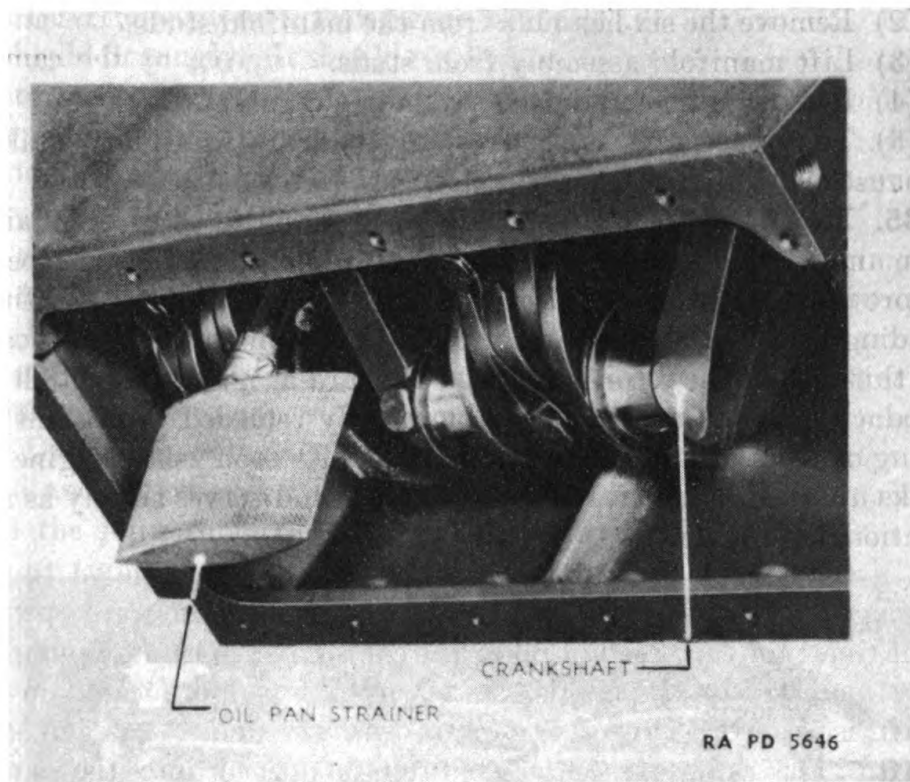

FIGURE 8.—Crankcase oil strainer.
(1) Through a pipe connection to the oil filter and rocker arm assemblies, half going to each point. The oil to the filter actuates the pressure gage, is filtered, and returns to the sump through base of filter. The oil going to the rocker arm system is fed into a hollow rocker arm shaft. From this shaft it is fed equally to all rocker arms. A small amount is metered by a shed on rocker arm, and allowed to lubricate the valve stems. The balance of this supply flows to the tappet adjusting screws, and follows down the push rods, lubricating the cam followers, as it returns to the oil sump.
(2) The balance of the oil passes to drilled passage in camshaft through two holes drilled in pump body. These holes are opened up four times for each revolution of the camshaft. When the pump pressure increases to 15 pounds, the oil by-pass valve, located in pump shaft, is opened. This oil also passes into the drilled passage of camshaft. The camshaft center drilling is opened into the camshaft bearings, supplying them with oil, and through a cored passage to the crankshaft main bearings. Four metering holes are drilled into the camshaft directly opposite each connecting rod. These are timed to coincide with the connecting rod travel, thus spraying oil onto the connecting rod. Oil enters the connecting rod through a hole drilled through the upper portion of rod into a groove in the bearing. The balance of oil not used by motor passes through grooves on the side of the spring loaded camshaft end thrust plunger, lubricating the timing gears, governor, and returning to oil sump.
c. Oil pan strainer.—A screen is provided in the sump (fig. 8) to which the intake pipe of the oiling system is connected. Sludge must not be allowed to collect around the strainer, especially in cold weather, as it will congeal and shut off the oil supply. After every 25 hours of operation the oil pan strainer should be removed and cleaned as follows:
- (1) Drain the oil from the sump.
- (2) Remove the cap screws, holding the oil pan in place, and lift off the oil pan and gasket.
- (3) Remove oil strainer and clean with solvent, dry-cleaning.